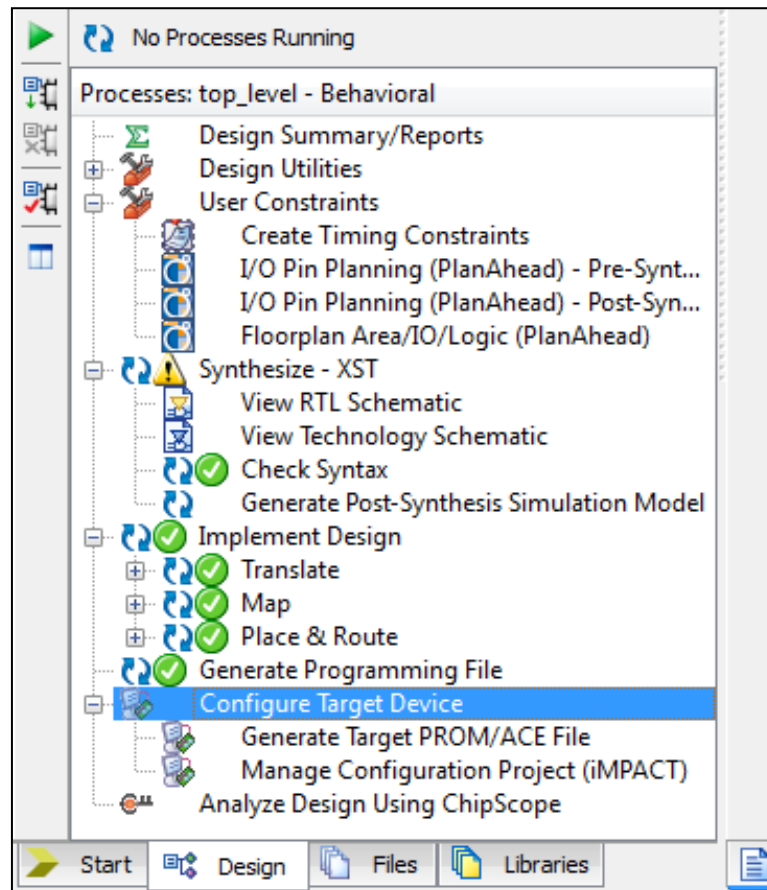

Figure 6.48: Portion of Project Navigator screen, after Generate Programming File has successfully been run.
2. Double-click on **Generate Programming File**. When this has successfully run, a green tick will appear next to **Generate Programming File** as shown in Figure 6.48.